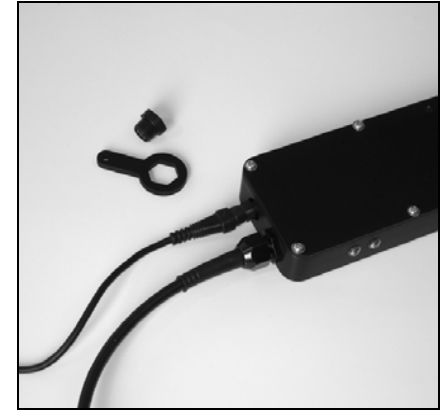

Figure 7: Connecting the charger.
- Connect the charger to the socket inside the transceiver unit (see Figure 7) and the charger to the mains.